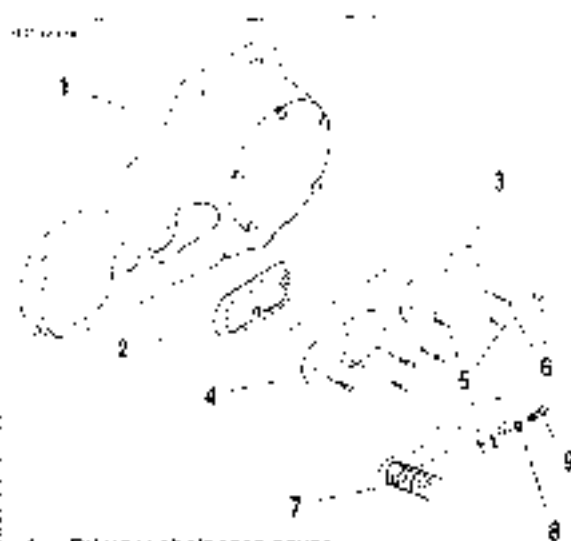

Figure 1-21. Inspection Cover
2. See Figure 1-21. On all models except FXDWG, remove screw (8), washer (8) and foot shifter lever (7).
3. Remove two short screws (5), two long screws (6) and primary chain inspection cover (3 or 4).
7. See Figure 1-21. Install inspection cover (3 or 4) and new gasket (2). Tighten both pairs of cover fasteners (5, 6) to 84-106 in-lbs (9.5-12.2 Nm).
8. On all models except FXDWG, install foot shifter lever (7), washer (8) and screw (9). Tighten screw to 96-120 in-lbs (10.8-13.5 Nm).